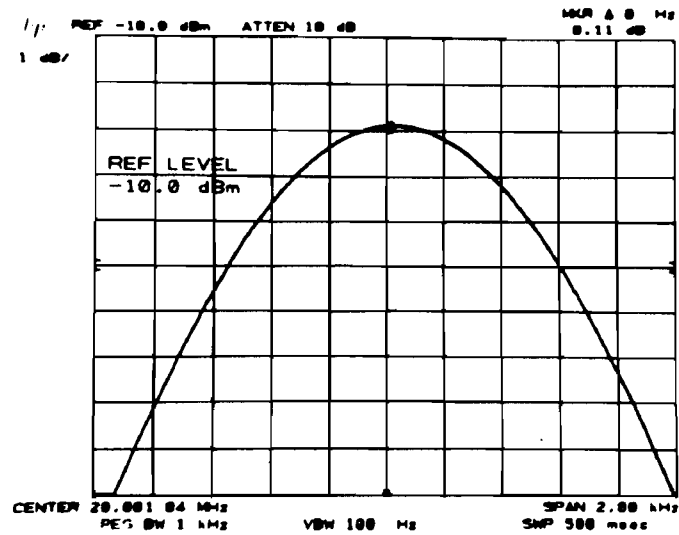

Figure 2-10. IF Gain Uncertainty Measurement
12. Set the analyzer **REFERENCE LEVEL**, **VIDEO BW**, and frequency synthesizer amplitude according to Table 2-9 settings. (Use the frequency synthesizer **↓** for 10 dB steps.) At each setting, note the MKR Δ amplitude displayed in the upper right corner of the analyzer display (deviation from the 0 dB reference setting) and record it in the table. See Figure 2-10.